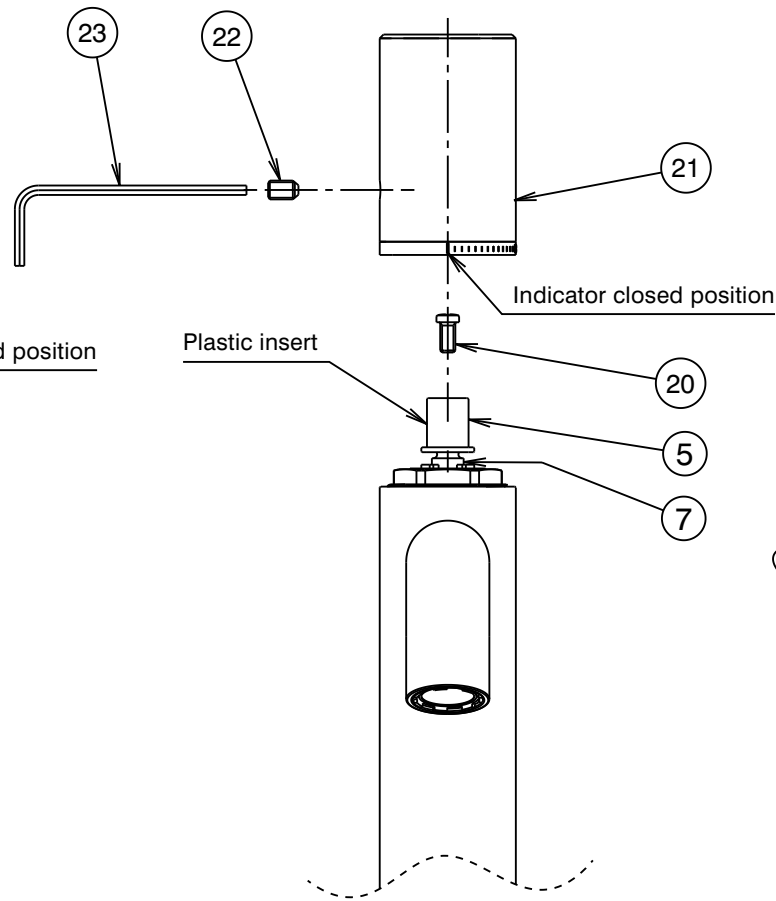

Fig. 4
- 3) Fit new plastic insert (5), from plastic bag, onto spindle spline (7) with square aligned to axis. Secure using screw (20) supplied. (See Fig.4)
- 4) Align the closed position indicator on the timber handle to be at the front then slide the handle (21) onto the plastic insert (5) and tighten the grub screw (22) using a 2.5mm allen key (23).
When timber handle (21) is fitted (Fig.4):-